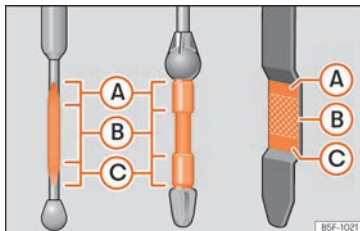

Fig. 242 Engine oil dipstick.
- Then pull it out once more and check the oil level **»»** Fig. 242. Top up with engine oil if necessary.
- When the oil level reaches at least zone »» **Fig. 242 (B)**, unscrew the engine oil filler cap carefully »» **ⓘ**.
If the oil level is above area »» **Fig. 242 (A)**, do not start the engine. This could result in damage to the engine and catalytic converter. Contact a specialised workshop.
The oil level must never be above zone »» **Fig. 242 (A)**. Otherwise oil can be drawn in through the crankcase breather and leak into the atmosphere via the exhaust system.